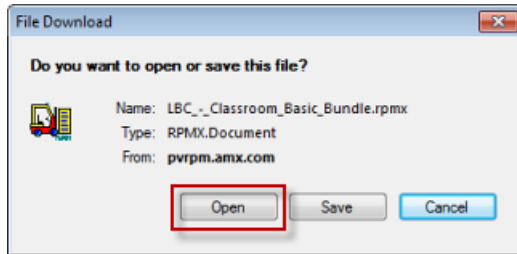

FIG. 4 File Download dialog
2. When the application prompts you to open or save the file, click **Open** (FIG. 4):